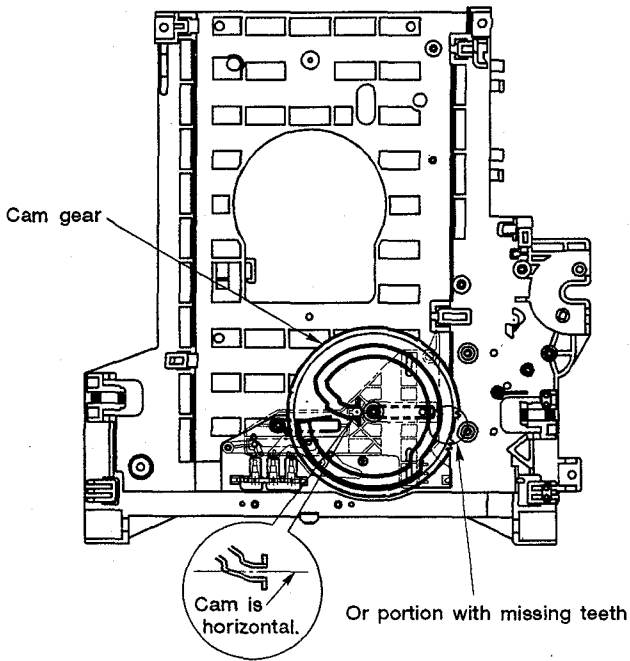

Fig. 2-10
4. Slightly turn the cam gear ⑥ in a counterclockwise direction until the cam gear reaches the position shown in Fig. 2-10.